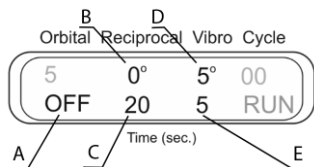
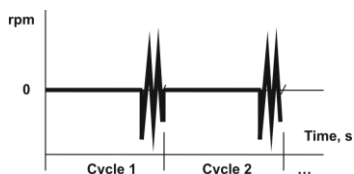

Figure 10
Figure 11
- **3D vibro + pause** (fig. 10). Turn off 3D orbital motion by setting time of 3D orbital motion to zero (**A**, OFF). Set the angle of 3D reciprocal type motion to zero (**B**). Set the time for 3D reciprocal motion (**C**, 1–250 s), this is the duration of the pause. Set the turning angle (**D**, 0–5°) and time (**E**, 1–5 s) for 3D vibro type motion. Figure 11 shows 3D vibro motion and pause run one after another in cycles. Figure 11 shows 3D vibro motion and pause run one after another in cycles.